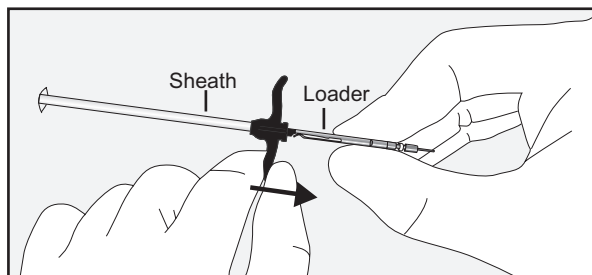

Figure 24: Pull the Sheath until the Proximal End is Aligned with the Proximal End of the Reed Connector
7. If the patient's response signals correct lead placement at acceptable stimulation intensity, then hold the lead in loader firmly. Slowly withdraw the sheath approximately 2 cm, until the proximal end of the sheath aligns with the proximal end of the reed connector on the loader. This step deploys the lead anchor. See Figures 24 and 25.